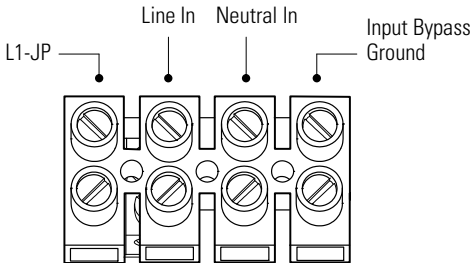

Figure 33. UPS Input Bypass Terminal Block
10. Connect the input bypass and ground wires to the input bypass terminal block according to Figure 33 and Table 2.